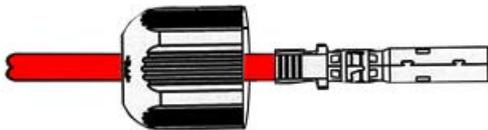
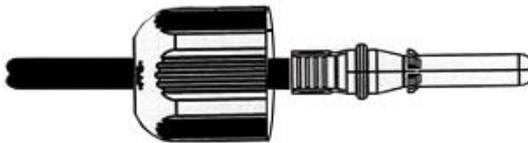

Figure4-12 Crimp the positive metal terminal
Figure4-13 Crimp the negative metal terminal
Step 4 Insert the positive wire and negative wire into the positive metal terminal and negative metal terminal respectively. Crimp the metal terminals firmly by crimping pliers, as shown in Figure4-12 and Figure4-13.